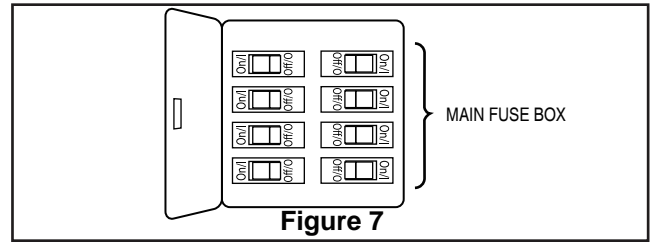

Figure 7
- 6. Lift the fan off the hanger bracket hook and mount your fan by sliding the ceiling canopy over the mounting bracket with the two loosened screws going into the "L" slots in the canopy. Be sure all wiring is tucked into the ceiling canopy and is not pinched. Once the canopy is flush with your ceiling, turn clockwise to seat the screws into the keyed portion of the slot. Tighten the screws. (Figure 7)
To avoid possible fire or shock, be sure electricity is turned off at the main fuse box before hanging. (Figure 7)